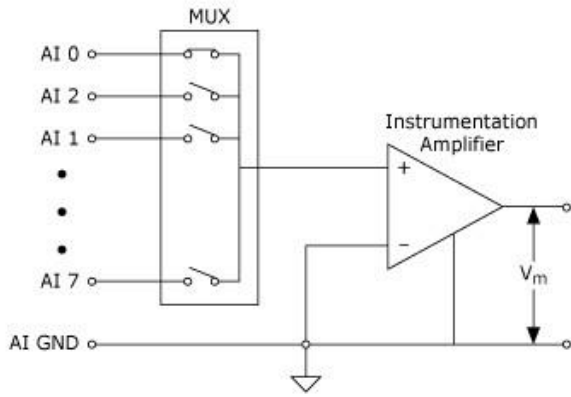

Figure 7: RSE Measurement System
- a. ground-referenced Single-ended (RSE): it is clear by Figure 7 that all input channels are measure with respect the system ground, i.e. the (-) input of the instrumentational amplifier is connected to the system ground.